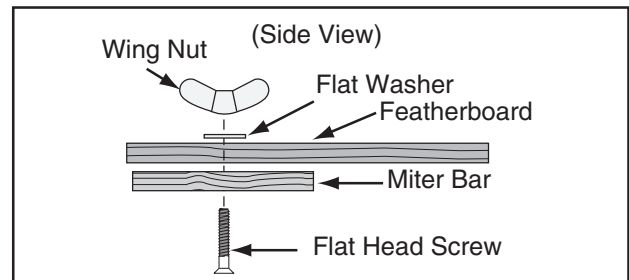

Figure 94. Assembling miter slot featherboard components.
8. Assemble the miter bar and featherboard with a $\frac{1}{4}$ "-20 x flat head screw, flat washer, and a wing nut or a star knob (see **Figure 94**). Congratulations! Your featherboard is complete.